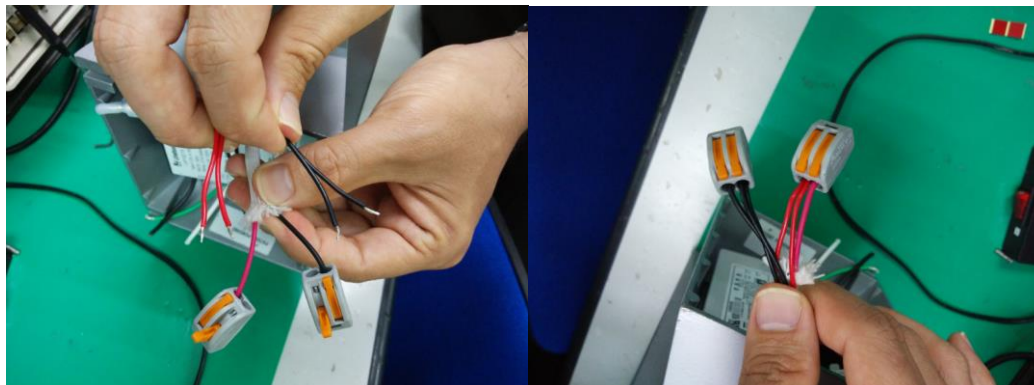

Figure 6: LED modules output wire connected to power supply output wire using compact splicing connector
5. There will be 2 output wires for both main LED module and backlite module. Refer to Figure 6. Connect the pigtail wires from both LED modules to the power supply (with matching colors) using the available connectors. There will be 3 wires connected to each connector.